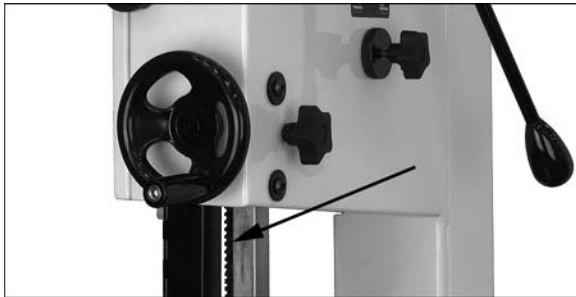

Figure 36
1. Periodically apply a light, non-hardening grease to rack and pinion system of guide post (Figure 36).